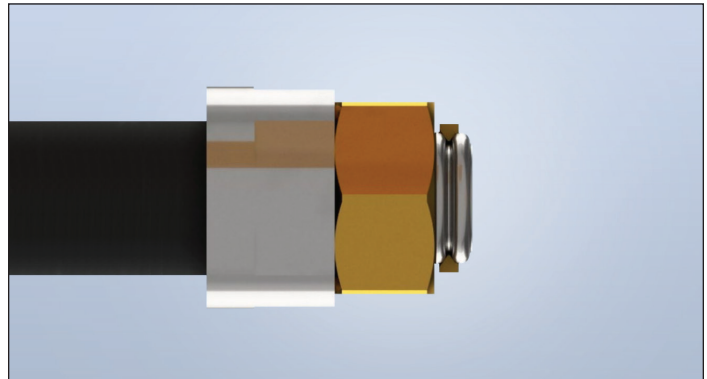

Figure: 1-6
7. Slide floppy conduit over the cut end followed by the Nut with Floppy Conduit Adapter until the Nut bottoms out against the jacket. Place two Split Rings into the first corrugation next to the tube cut (Figure 1-6).